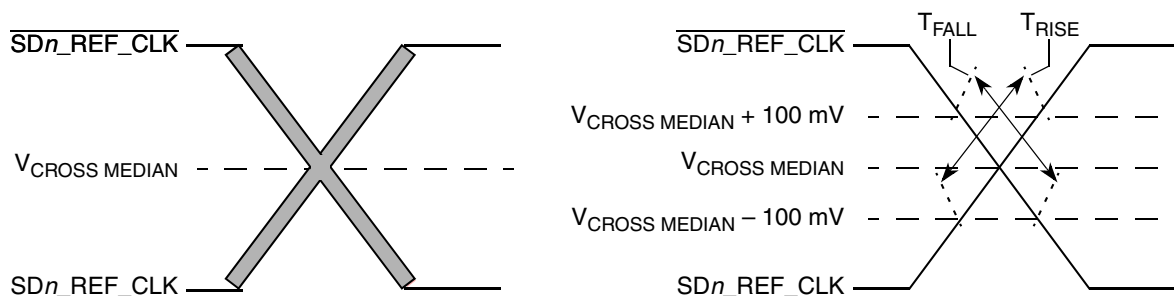

Figure 41. Single-ended measurement points for rise and fall time matching
- Matching applies to rising edge for SD_REF_CLK n and falling edge rate for $\overline{\text{SD\_REF\_CLK}}_n$. It is measured using a 200 mV window centered on the median cross point where SD_REF_CLK n rising meets $\overline{\text{SD\_REF\_CLK}}_n$ falling. The median cross point is used to calculate the voltage thresholds that the oscilloscope uses for the edge rate calculations. The rise edge rate of SD_REF_CLK n should be compared to the fall edge rate of $\overline{\text{SD\_REF\_CLK}}_n$, the maximum allowed difference should not exceed 20% of the slowest edge rate. See Figure 41.